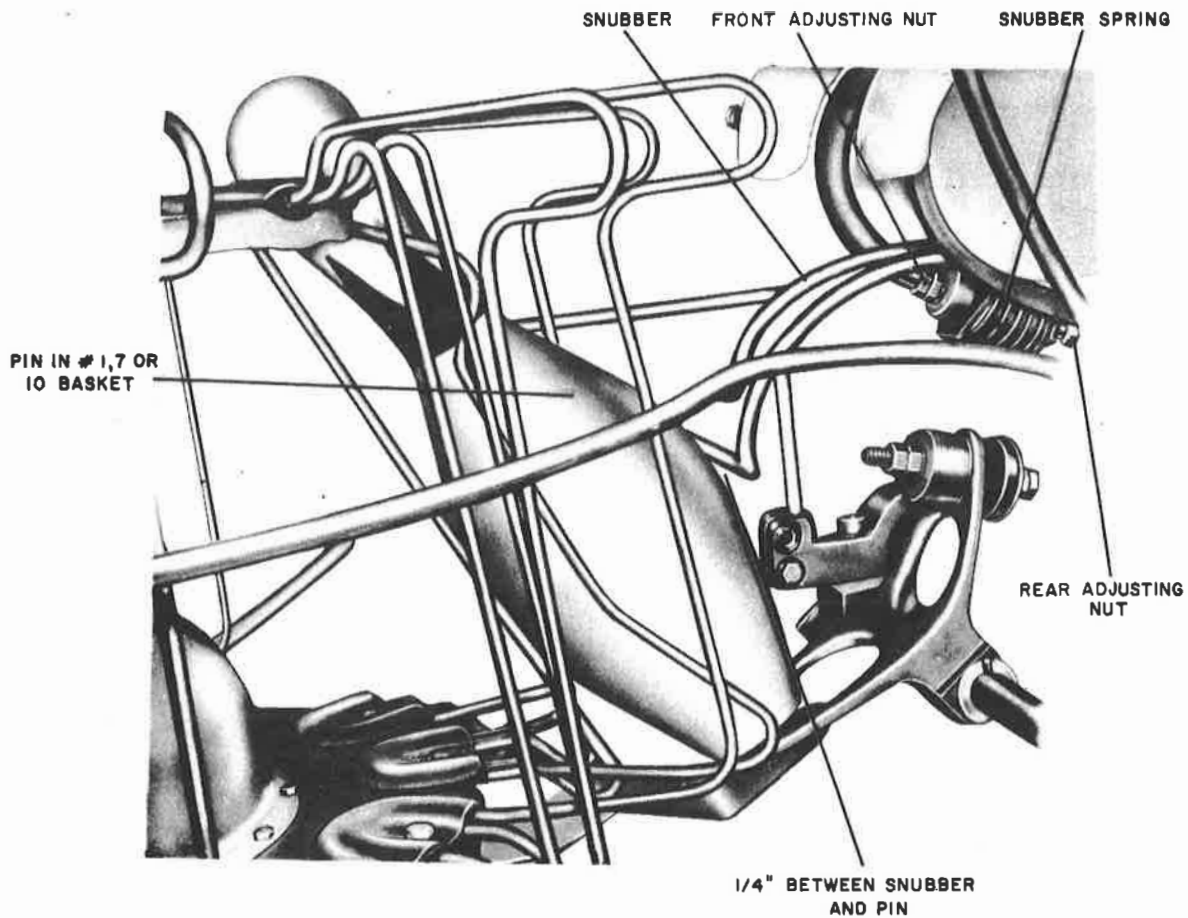

Figure 92. Snubber Adjustment
39. SNUBBER ADJUSTMENT. (FIGURE 92)